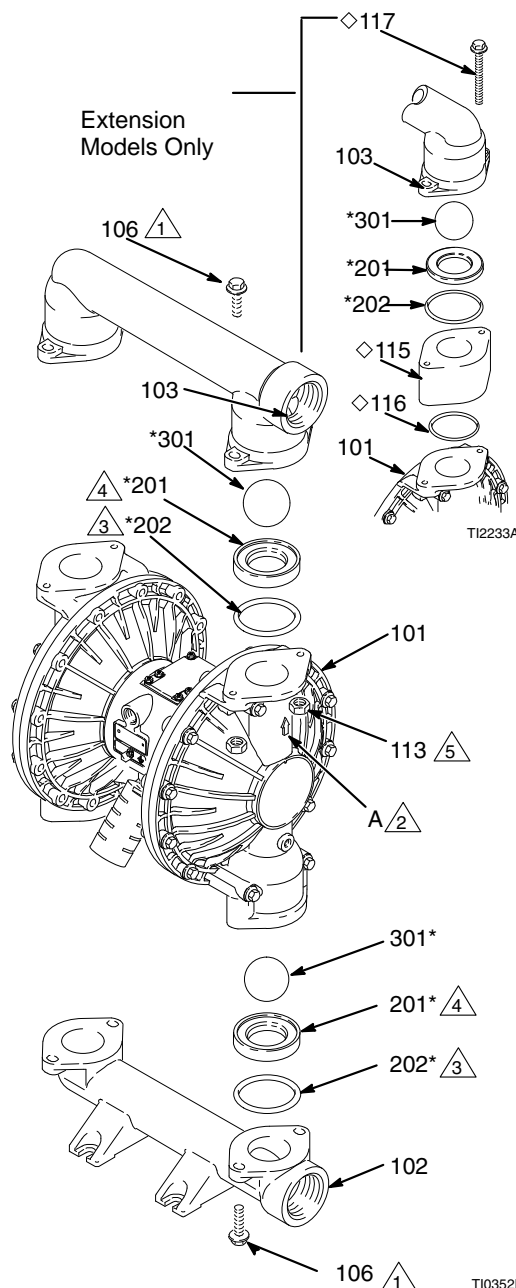

FIG. 10
**NOTE:** To ensure proper seating of the balls (301), always replace the seats (201) when replacing the balls.
**NOTE:** (Extension Version) To ensure proper sealing of extension (115), always replace o-rings (116) when replacing the balls.
3. Using a 10 mm socket wrench, remove the four bolts (106) holding the outlet manifold (103) to the fluid covers (101). See Fig. 10.
4. Remove the seats (201), balls (301), and o-rings (202) from the manifold.
**NOTE:** Some models do not use o-rings (202).
5. Turn the pump over and remove the inlet manifold (102). Remove the seats (201), balls (301), and o-rings (202) from the fluid covers (101).
2. Reassemble in the reverse order, following all notes in FIG. 10. Be sure the ball checks are assembled **exactly** as shown. The arrows (A) on the fluid covers (101) **must** point toward the outlet manifold (103).